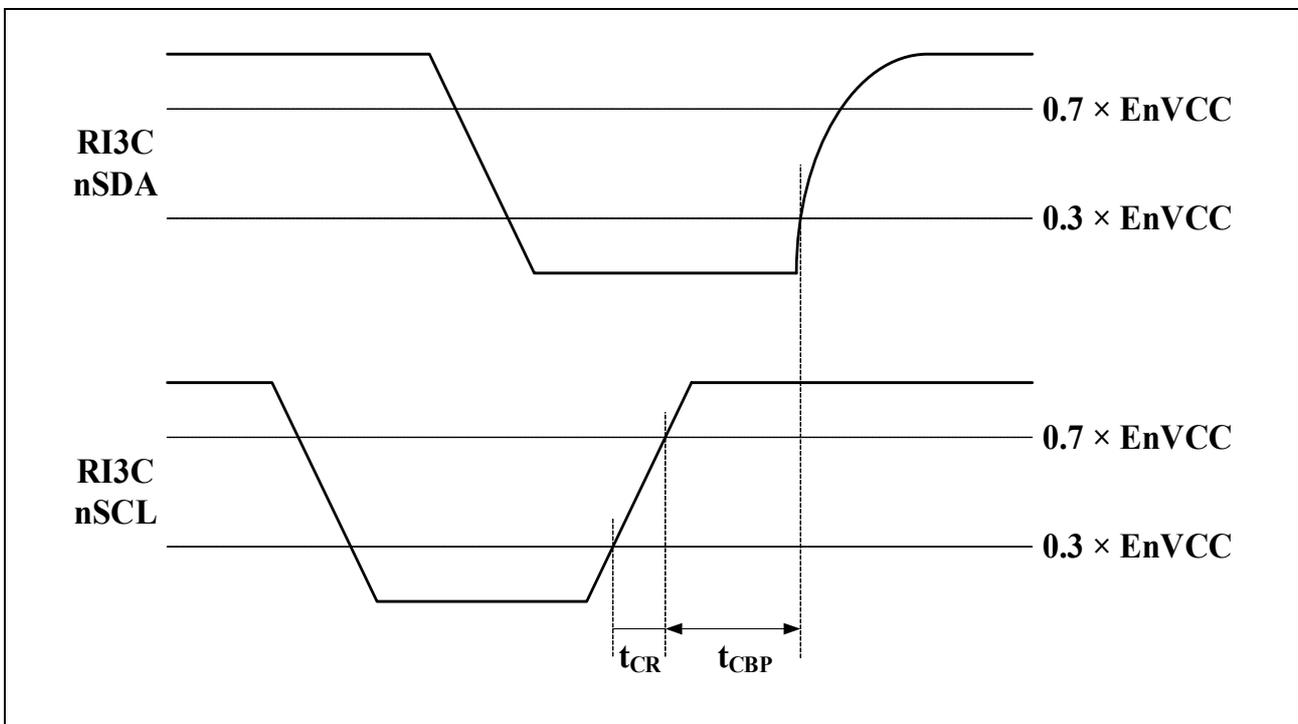

Figure 3.44 I3C STOP condition Timing
| Clock Before STOP (P) Condition | t_{CBP} | Figure 3.44 | $t_{CASmin} / 2$ | | | seconds |